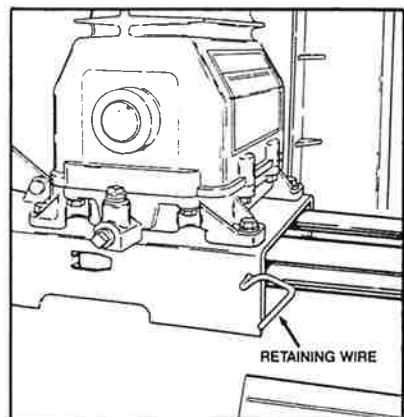
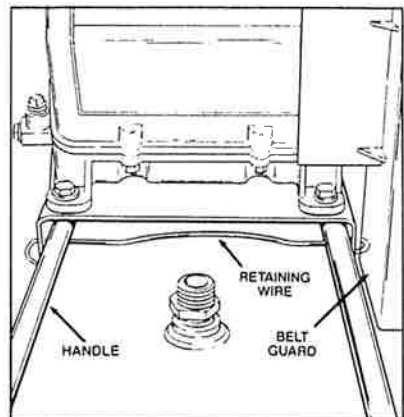

FIG. 3
FIG. 4
2. Grasp the hook at the end of the retaining wire. Insert the pointed end of the wire through the saddle hole (Fig. 3). Guide it through the handle holes on both sides and out the saddle hole on the belt guard side (Fig. 4). The retaining wire is meant to fit very tightly, so you may need to use some effort to push it all the way through. You may also need to move the belt guard side of the handle up and down slightly to align the hole. The pointed end of the wire must protrude out of the belt guard side of the saddle.